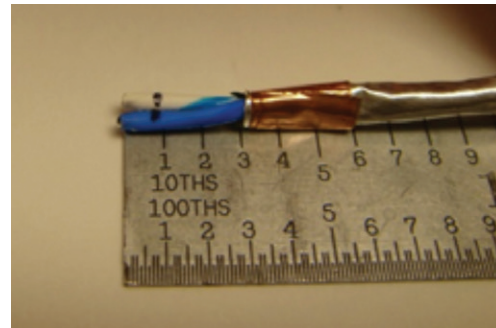

Figure 53: Marking a primary
14. Mark each primary at 0.07 inch from the end (Figure 53).